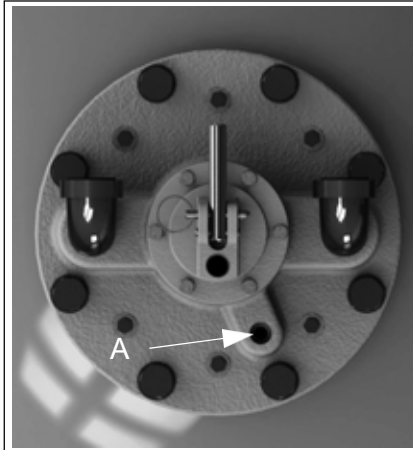

Fig. 8: Connection of the filling line at the valve
5. Remove the countersunk hex. screw from the filling connection of the valve (see Fig. 8).
- screw on the external filling line with the filler neck (A Fig. 8) of the valve cover.